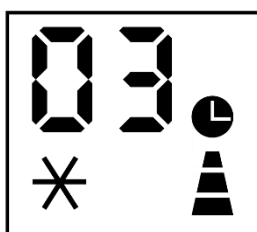

Fig 5
- When the appliance is running press the TIMER button, the screen will then display the hours and several symbols will flash together (Fig. 5).